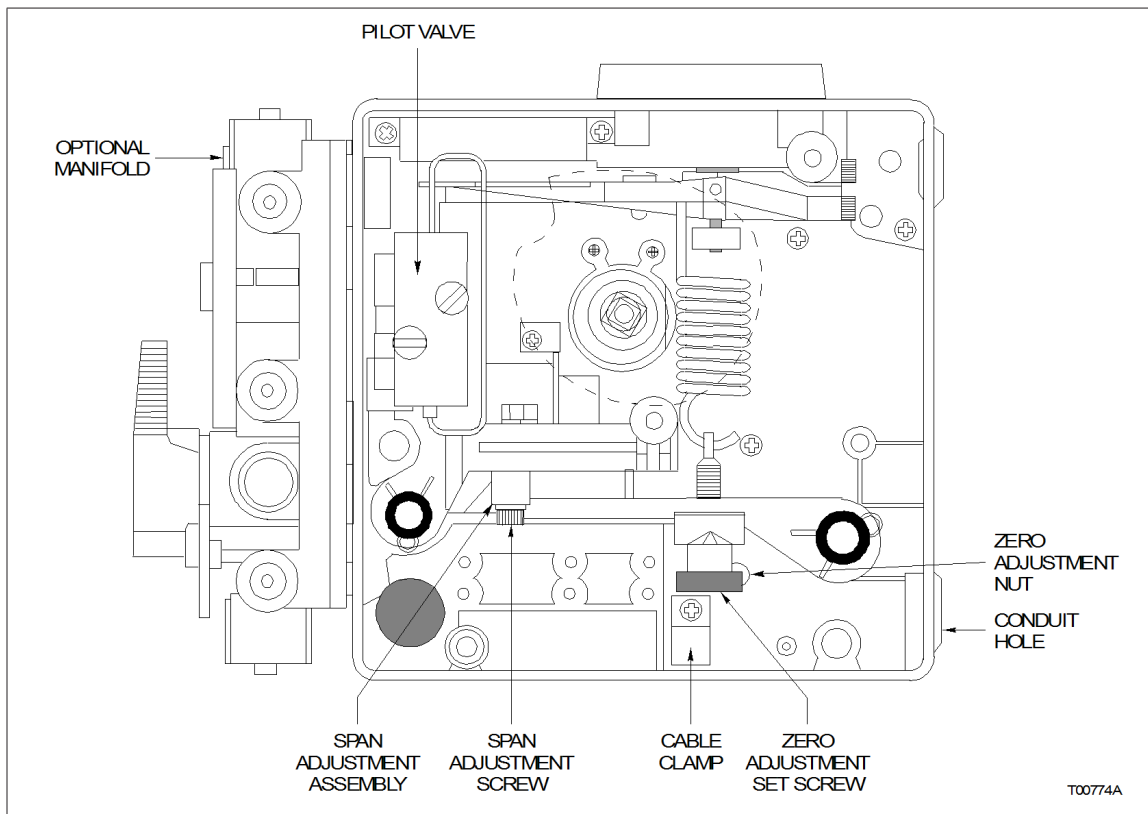

Figure 4-1. Calibration Adjustments
2. To adjust the zero, loosen the zero adjustment set screw (Fig. 4-1) with the $\frac{3}{32}$ -inch Allen wrench.
2. To adjust the span, loosen the span adjustment screw (Fig. 4-1) using a $\frac{3}{32}$ -inch Allen wrench.
3. Slide the span adjustment assembly (Fig. 4-1) in the appropriate direction until the actuator moves to align the 100% radial line with the center of the cam roller (toward pilot valve increases span of actuator).